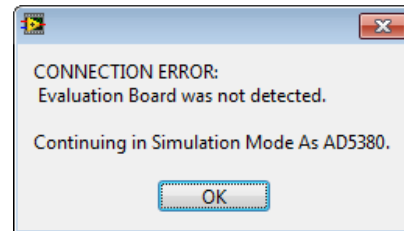

Figure 4. Connectivity Error
4. If the SDP board is not connected to the USB port when the software is launched, a connectivity error displays (see Figure 4), and the software continues to operate in simulation mode. In simulation mode, the user can exercise all the functionality of the AD5380/AD5382. Expected output voltages are displayed based on the input data, and the 24 bits of data that would have been sent to the AD5380/AD5382 are displayed at the bottom right of the screen.